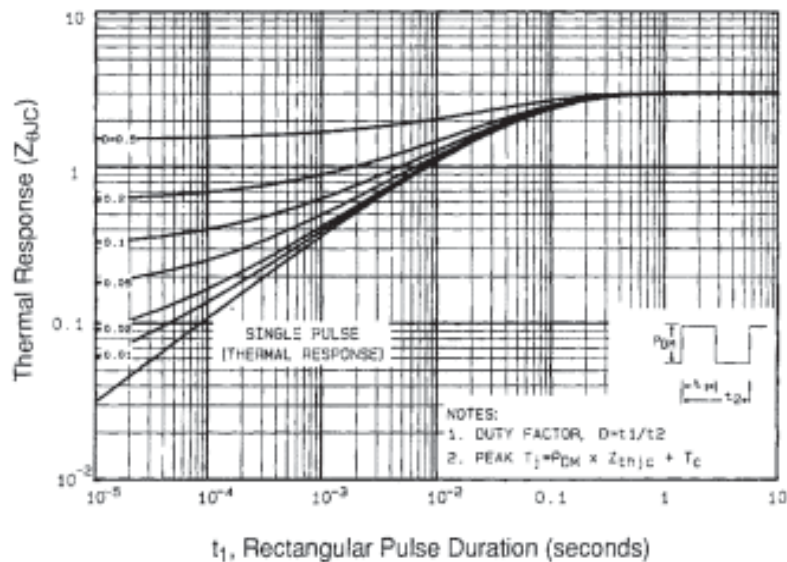

Fig 11. Maximum Effective Transient Thermal Impedance, Junction-to-Case
① Repetitive rating; pulse width limited by max. junction temperature (See Figure 11)
② $V_{DD}=50V$, starting $T_J=25^\circ\text{C}$, $L=14mH$